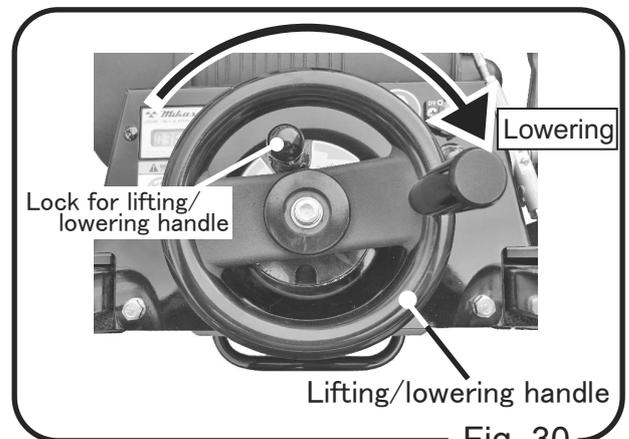

Fig. 30
3. When start cutting with the blade by lowering the machine, turn the lifting/lowering handle in the center of the machine clockwise, and finish cutting at a speed that will not lower the engine revolution too much. After reaching the required cut depth, lock the lifting/lowering function by using the tab below the lifting/lowering handle. (Fig. 30)
When the chips inside the plastic bag in the dust case exceeds the specified level (about 80% of the dust case), a LED lamp lights up and a buzzer goes off. When that happens, remove the chips, then place a new plastic bag and set the dust case. (Fig. 30)